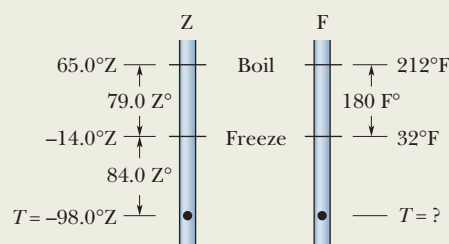

Figure 18-8 An unknown temperature scale compared with the Fahrenheit temperature scale.
**Calculations:** We begin by relating the given temperature  $T$  to *either* known temperature on the Z scale. Since  $T = -98.0^{\circ}\text{Z}$  is closer to the freezing point ( $-14.0^{\circ}\text{Z}$ ) than to the boiling point ( $65.0^{\circ}\text{Z}$ ), we use the freezing point. Then we note that the  $T$  we seek is *below this point* by  $-14.0^{\circ}\text{Z} - (-98.0^{\circ}\text{Z}) = 84.0^{\circ}\text{Z}$  (Fig. 18-8). (Read this difference as “84.0 Z degrees.”)
corresponding temperatures on the Fahrenheit scale. On the Z scale, the difference between the boiling and freezing points is  $65.0^{\circ}\text{Z} - (-14.0^{\circ}\text{Z}) = 79.0^{\circ}\text{Z}$ . On the Fahrenheit scale, it is  $212^{\circ}\text{F} - 32.0^{\circ}\text{F} = 180^{\circ}\text{F}$ . Thus, a temperature difference of  $79.0^{\circ}\text{Z}$  is equivalent to a temperature difference of  $180^{\circ}\text{F}$  (Fig. 18-8), and we can use the ratio  $(180^{\circ}\text{F})/(79.0^{\circ}\text{Z})$  as our conversion factor.